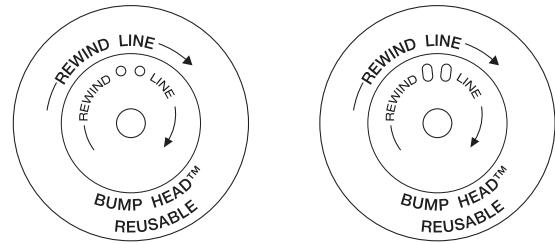

Fig. 17
**NOTE:** Split-Line™ can only be used with the inner reel with the slotted holes. Single line can be used on either type of inner reel. Use figure 17 to identify the inner reel you have.